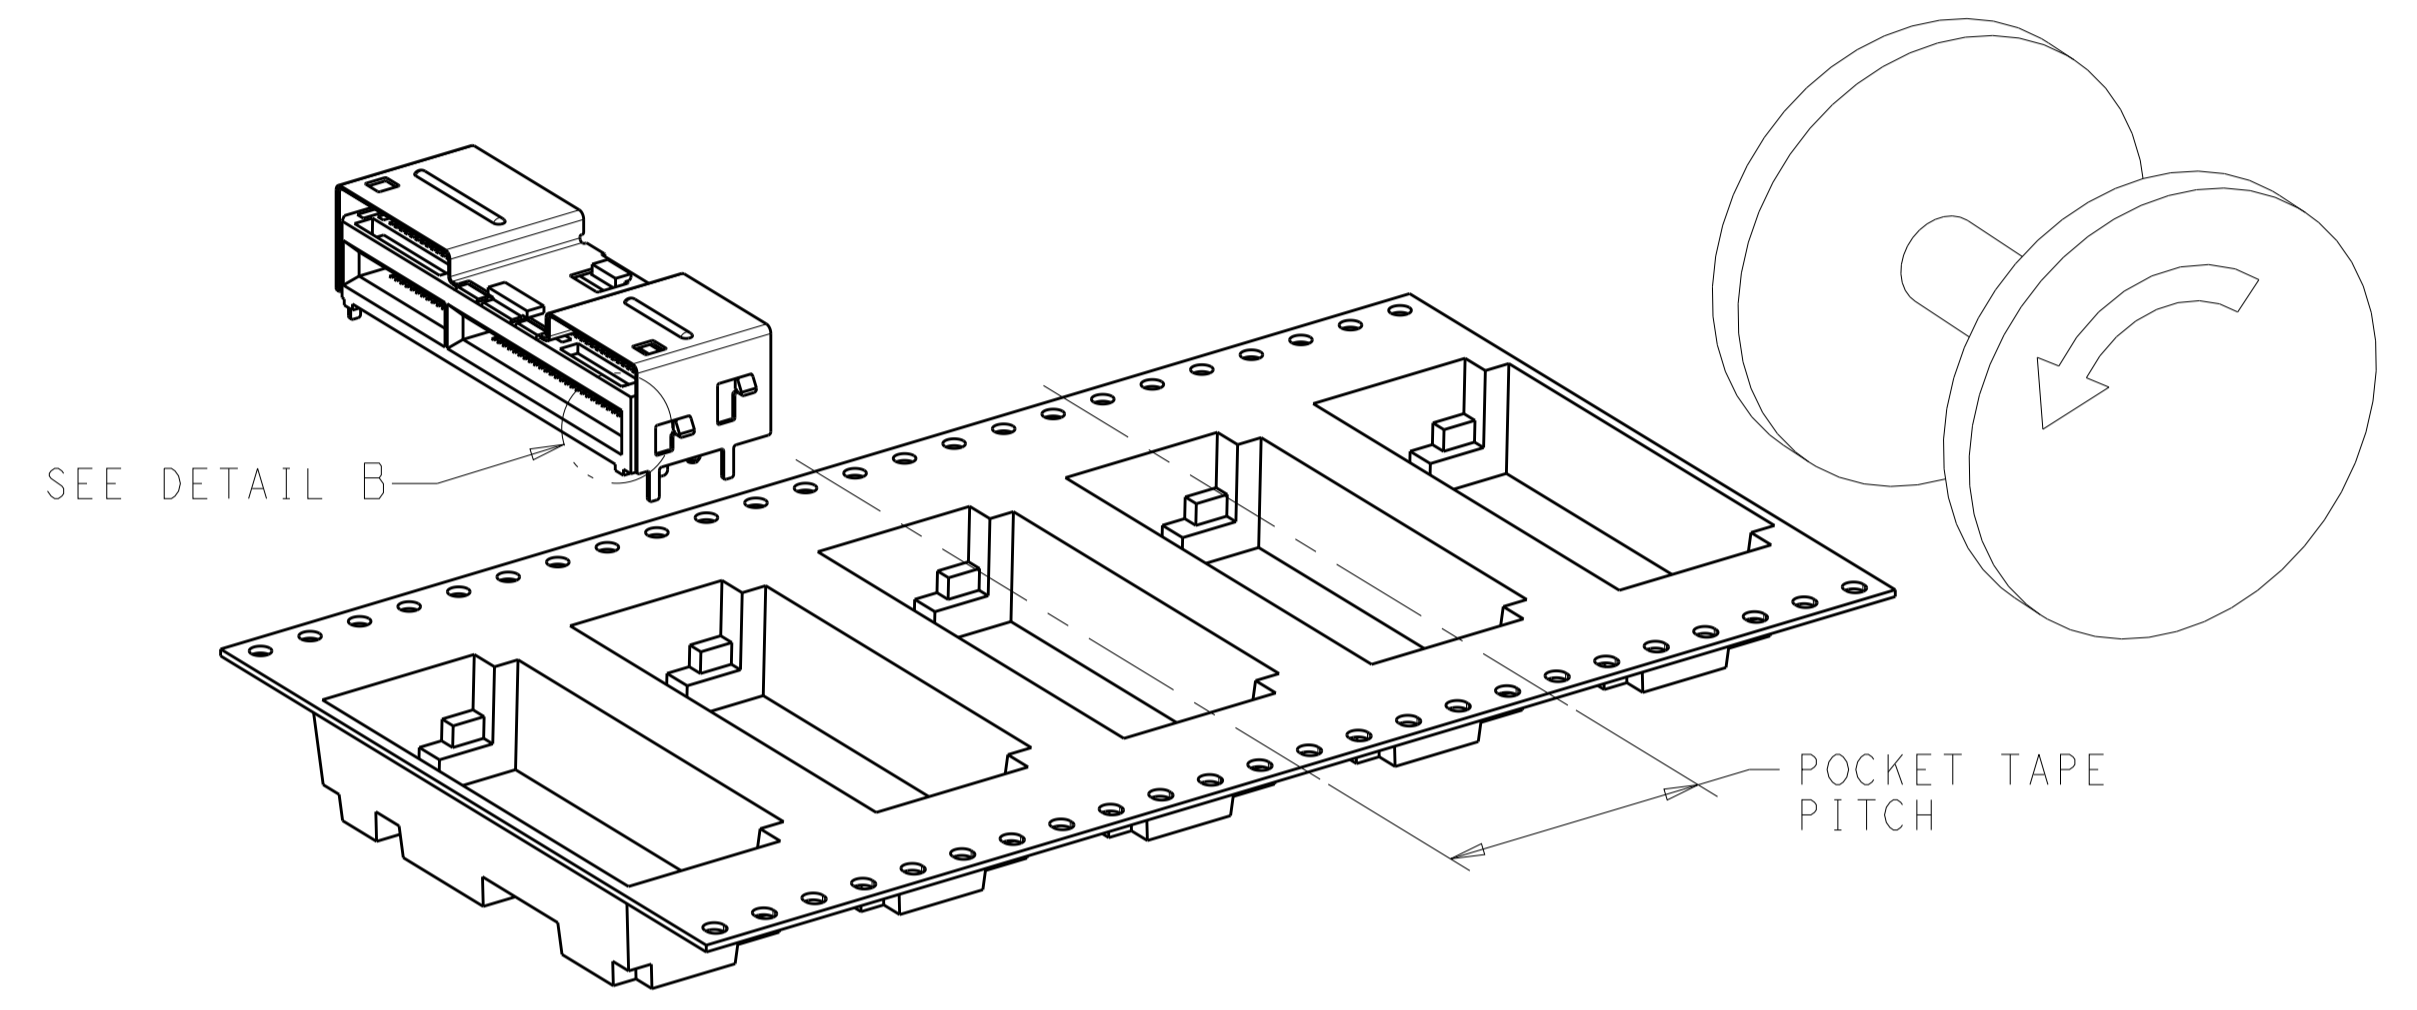

FIGURE 1  $\triangle$ 8
- 8 TAPE AND REEL PACKAGED FOR PICK AND PLACE SURFACE MOUNT PROCESSING, SEE FIGURE 1. POCKET TAPE WIDTH = 56.